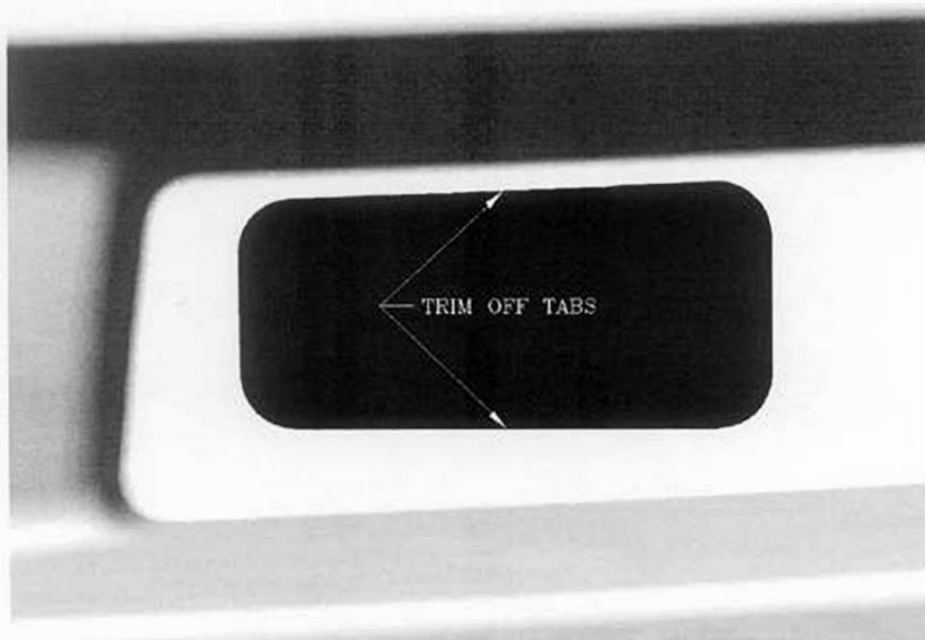
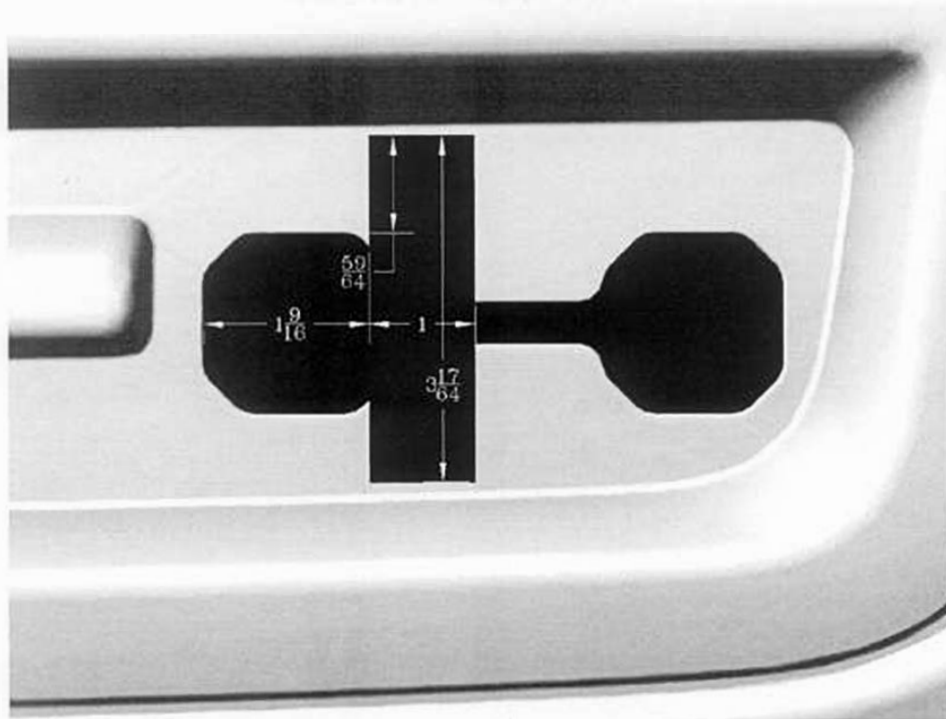

FIG. 3
FIG.4
3. INSTALL THE RIGHT HAND MOUNTING BRACKET (ITEM #4) INTO THE END OF THE FRAME. (NOTE: WHEN INSTALLING THE BRACKETS ON A CHEVROLET, BEND THE PLASTIC TAB IN THE AIR DAM TO THE INSIDE WHILE INSERTING THE BRACKET OR TRIM OFF THE TOP AND BOTTOM TABS EVEN WITH THE OUTSIDE HOLES, WITH A UTILITY KNIFE. SEE FIG. 3 ON PAGE 5. WHEN INSTALLING ON A GMC IT WILL BE NECESSARY TO NOTCH OUT THE PLASTIC WHERE THE BRACKETS COME THROUGH. SEE FIG. 4 ON PAGE 5.) FASTEN WITH THE 1/2"-13 X 1-1/2" BOLTS (ITEM #10), 1/2"-13 X 4-1/2" HEX BOLT (ITEM #9), 1/2" LOCK WASHERS (ITEM #16), 2.00 X .509 X .179 FLAT WASHER (ITEM #20) AND THE 1/2"-13 SERRATED FLANGE NUT (ITEM #13). LEAVE LOOSE AT THIS TIME.
NOTCH THE CHEVROLET LOWER VALANCE WITH A SHARP UTILITY KNIFE TO THE DIMENSIONS SHOWN IN FIG.3
NOTCH THE GMC LOWER VALANCE WITH A SHARP UTILITY KNIFE TO THE DIMENSIONS SHOWN IN FIG.4